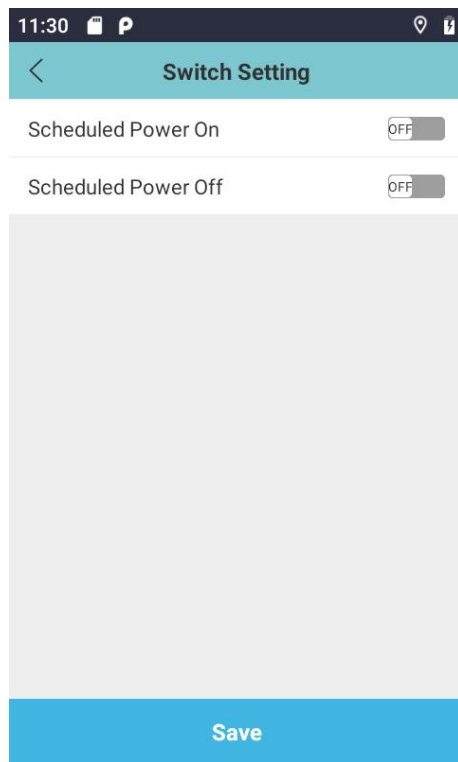
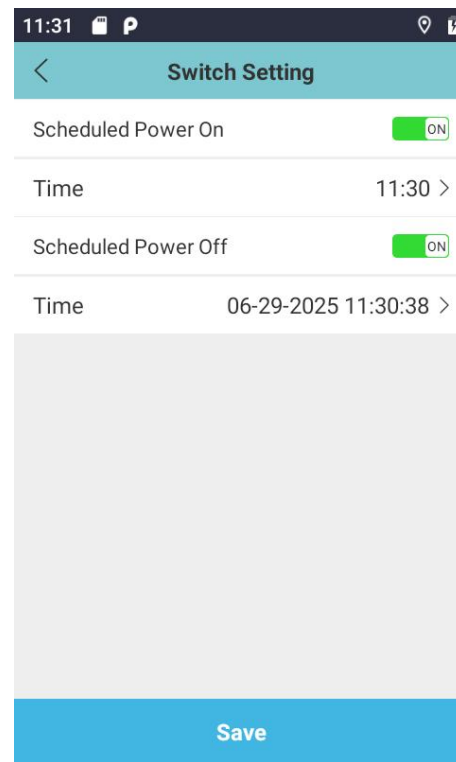

Figure 6.109
Figure 6.110
- 2) Power Scheduling: Tap “Power On/Off Settings” to enter the scheduled power management interface (Figure 6.109). Enable Scheduled Power-On and/or Scheduled Power-Off (Figure 6.110). It is recommended that scheduled power-on time be set at least 10 minutes before the measurement start time. Scheduled power-on will only occur once per setting. Scheduled power-off only works when the device is powered on. If the device is manually powered off and on again, the previous power-off schedule will no longer apply.